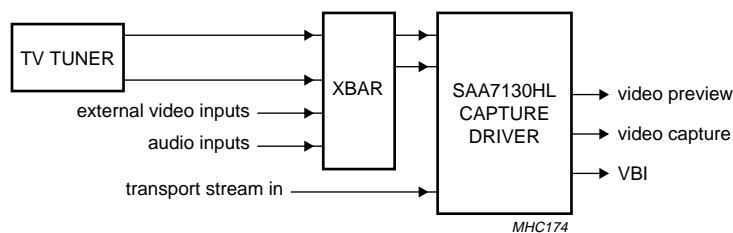

Fig.7 WDM capture driver filters.
The WDM driver for Windows 98 and Windows 2000 (see Fig.7) is a kernel-mode driver that implements a Kernel Streaming (KS) filter with output pins for audio, video preview, video capture and VBI, together with a crossbar for input source selection and optional connections for other on-board devices as child drivers. The WDM driver is implemented as a stream class mini-driver. It also exposes the external interfaces to support the user-mode 34API DLL. Custom applications and debug tools will continue to work without the need to load different drivers.